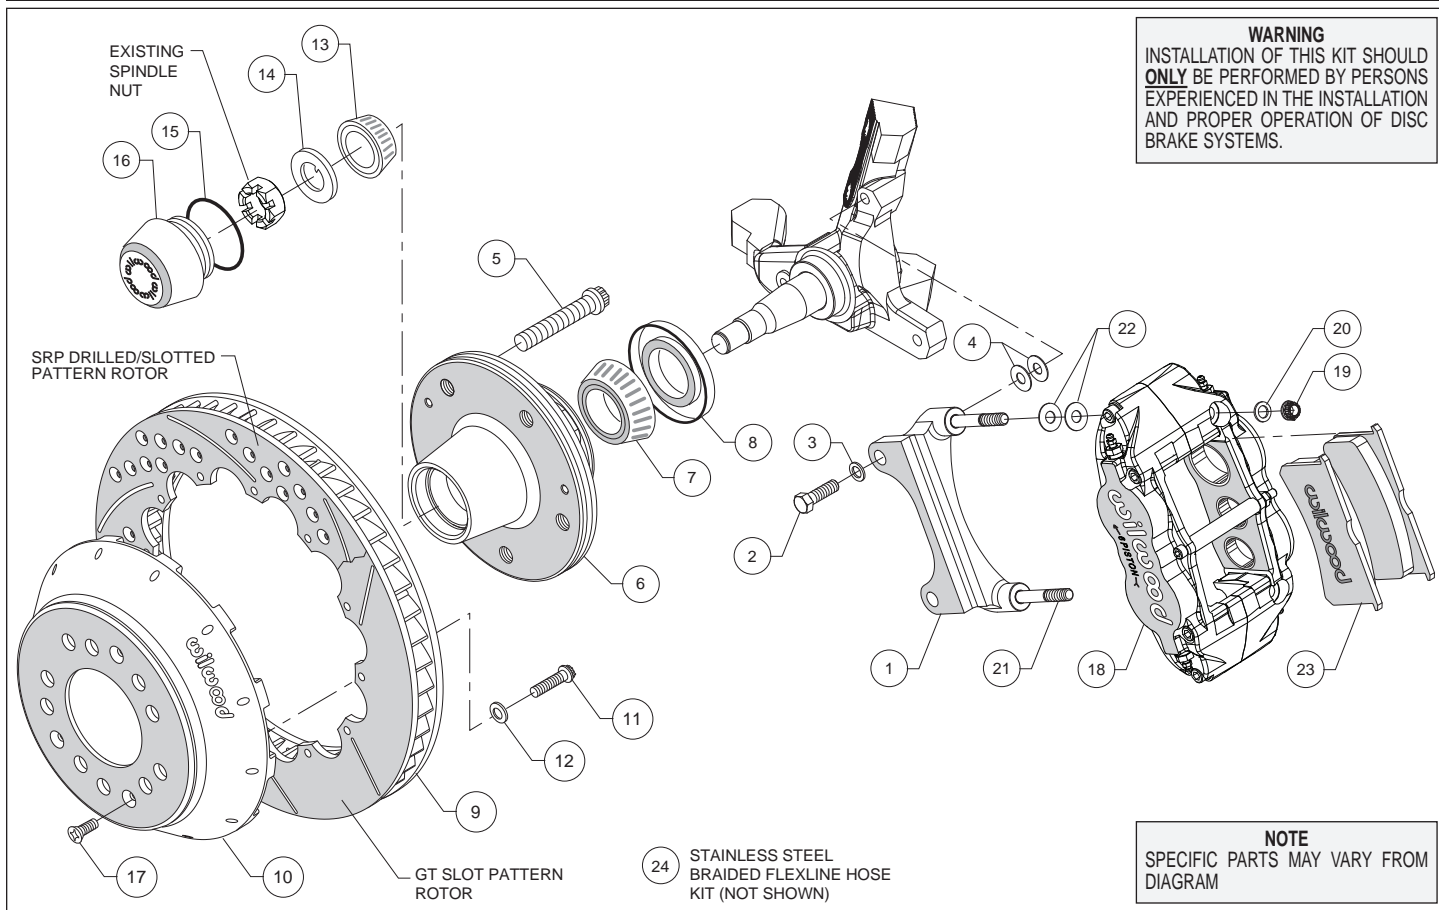

Figure 2. Typical Installation Configuration
Assembly Instructions (numbers in parenthesis refer to the parts list on the preceding page, and Figure 2):
- The caliper mount bracket (1) should initially be installed with clean, dry threads on the mounting bolts. Orient the bracket as shown in Figure 2 and Photo 1, and install using bolts (2) and washers (3). Initially place two .033" thick shims (4) on each bolt between the bracket and upright, Figure 2 and Photo 1. Temporarily tighten the mounting bolts. **NOTE:** The bracket must fit squarely against the mount bosses on the upright. Inspect for interference from casting irregularities, machining ridges, burrs, etc. Later, after the caliper alignment has been checked, the mount bolts will be secured using red *Loctite*[®] 271.
- Install wheel studs (5) into the hub (6), Photo 2. Torque to 77 ft-lb.
- Pack the large inner bearing cone (7) with high temperature disc brake bearing grease (available from your local auto parts store) and install into the backside of the hub (6), Photo 3.